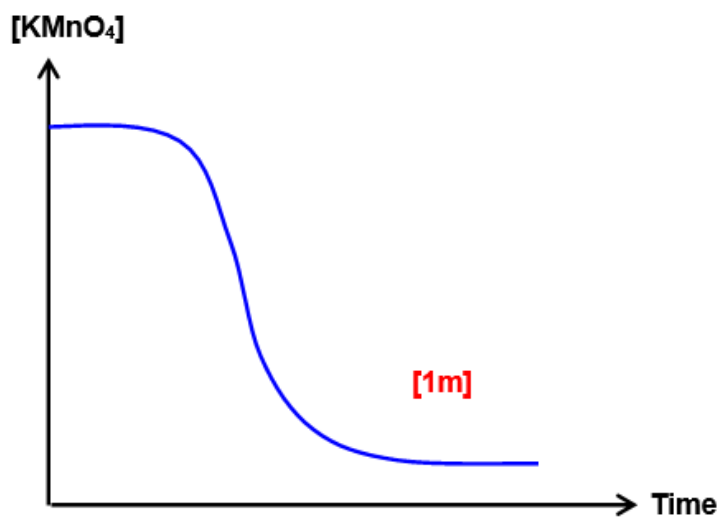

Fig 4.2
- (iii) Using the information given in **4(d)(ii)** and reaction 6, sketch, on Fig. 4.2, the graph you would expect to obtain if the experiment was conducted without the addition of $\text{Mn}^{2+}(\text{aq})$ solution. [1]